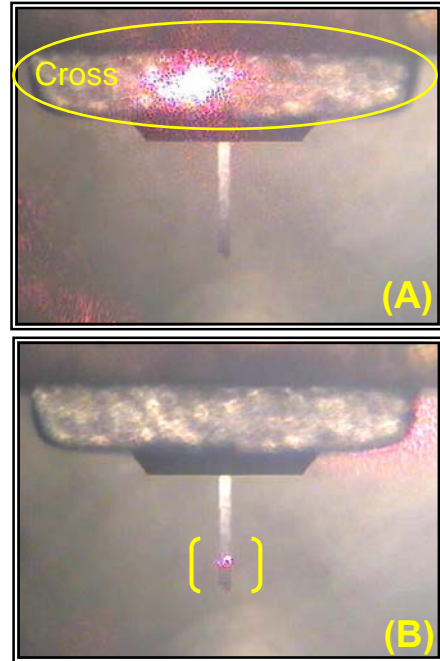

Figure 3-7
First, locate the position of the laser beam in the camera window by rotating the *Laser Position* knobs to direct the laser onto the back of the cross, as shown in Figure 3-7(A). Once this is accomplished, shift the laser spot on the cross to a point just to the left of the cantilever, as it appears in (A). The spot is approximately 3 widths of the cantilever to the left of the cantilever. Now if the laser Y position knob is rotated counterclockwise by about a quarter of a turn the laser spot will slide off of the cross and down onto the end of the cantilever, as shown in (B). It will probably be necessary to also adjust the X position control slightly to center the laser spot on the width of the cantilever.
The camera images in Figure 3-7 show a diving board shaped, contact mode cantilever. The performance of the microscope is not sensitive to the exact laser spot position. For this type of cantilever, the laser spot may be positioned anywhere on the lower half of the cantilever's length.